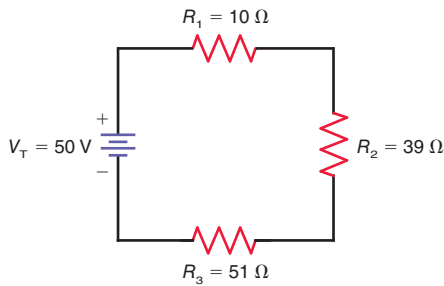

Figure 5-28
- 5.17 In Fig. 5-28,
- 5.18 In Fig. 5-28, indicate the polarity for each resistor voltage drop using conventional current flow. Are the
5.19 If the polarity of V_T is reversed in Fig. 5-28, what happens to the polarity of the resistor voltage drops and why?